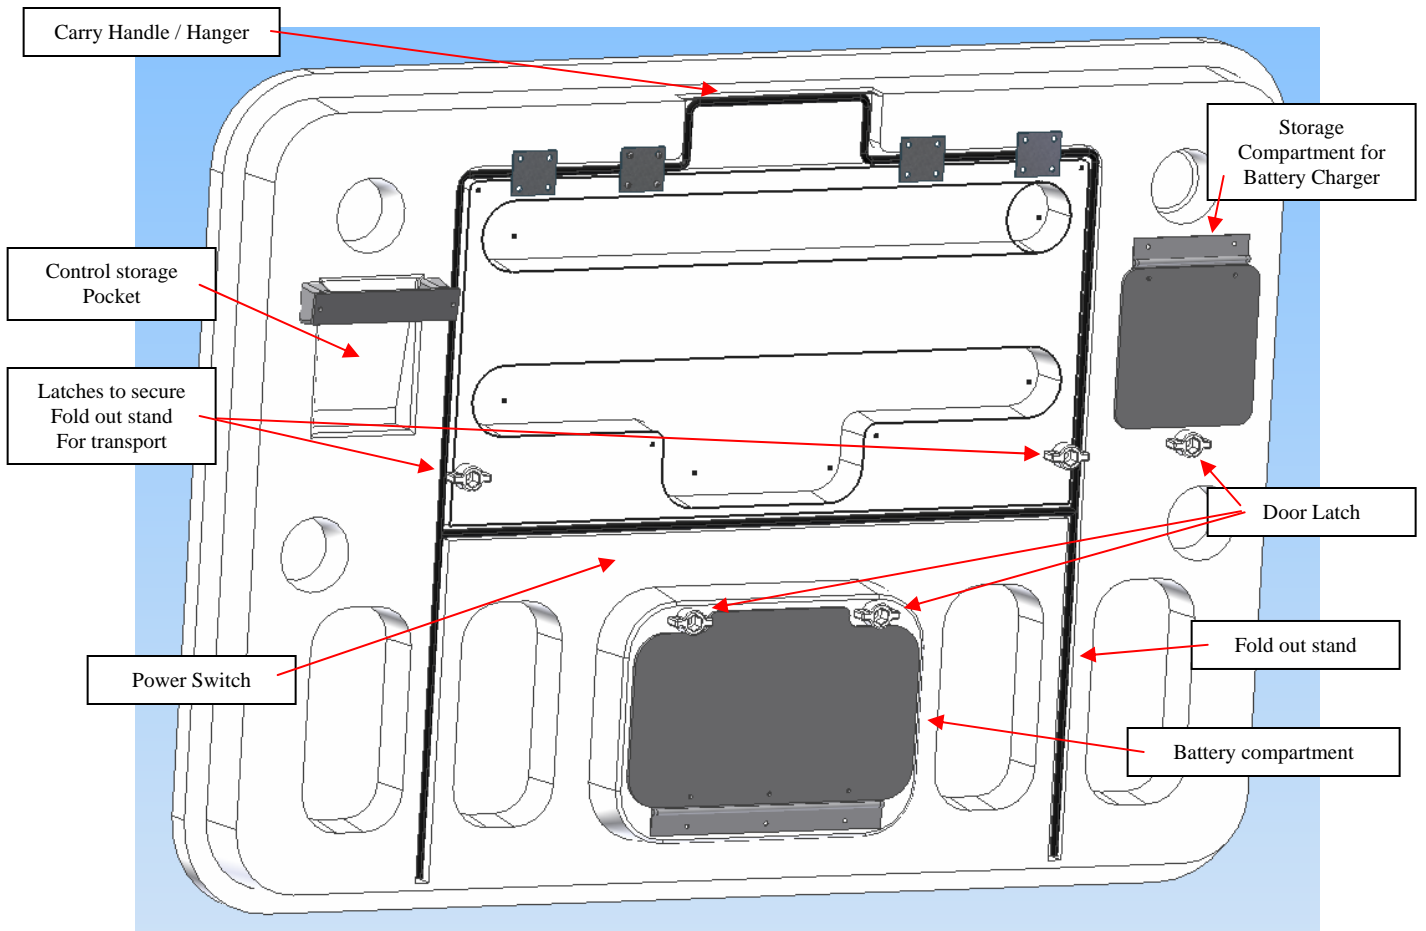

Figure 3
- a. Remove the battery from the scoreboard (see figure 3).
- j. The scoreboard power switch is located on the back of the scoreboard near the battery. (See figure 3). The switch should remain off when the scoreboard is not in use to conserve battery charge.
- a. Place the control in its storage pocket in the back of the scoreboard (see figure 3).
- b. Recharge the scoreboard battery and reinstall it in the scoreboard (see figure 3).
- c. Be sure the scoreboard power switch is turned off (see figure 3).
- b. Return the control to its storage compartment in the back of the scoreboard (see figure 3).
- c. Recharge the scoreboard battery and reinstall it in the scoreboard (see figure 3).
- d. Be sure the scoreboard power switch is turned off (see figure 3).
- The operator's control is stored in a pocket on the back of the scoreboard. (see figure 3)
- Turn the scoreboard power switch on. (see figure 3)